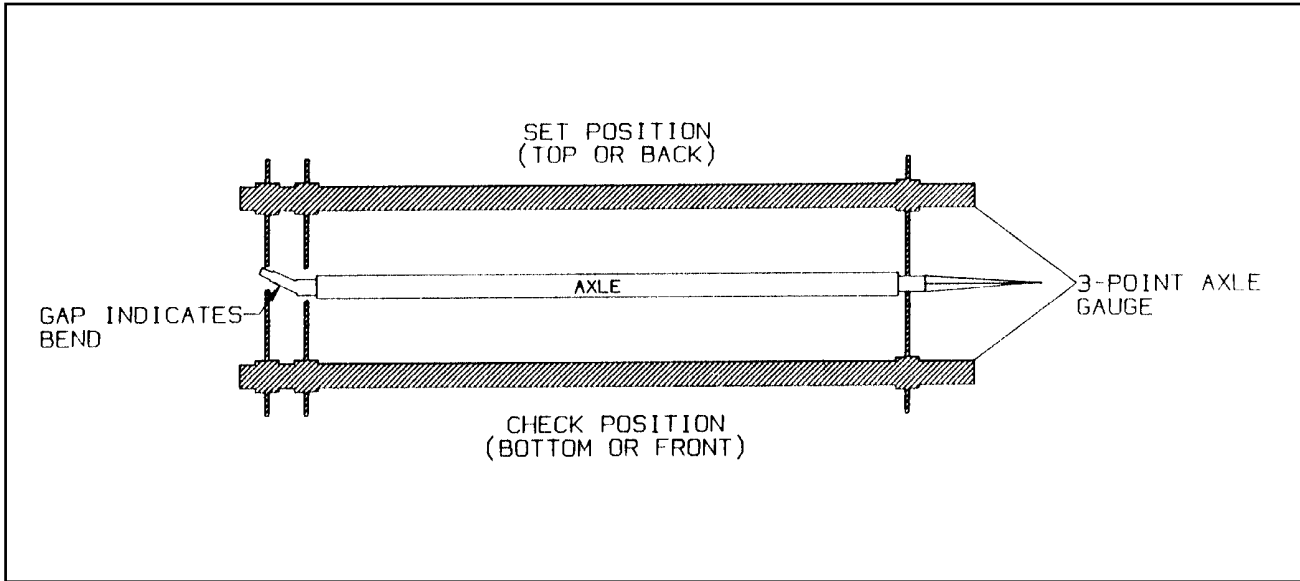

Figure 4-5 Checking Axle for Bend
- b. Place a 3-point axle gauge against the front side of the axle, and adjust each axle gauge point to the axle. (Double point end against the inner and outer wheel bearing surfaces of the spindle being checked and the other point on the inner bearing surface on the other spindle.) (See Figure 4-5).
- c. Move the axle gauge and place against the back side of the axle. If either of the points of double point end fails to touch the axle surface, a bent spindle is evident. A point gap of .015" or more is considered excessive tire "toe" and the axle must be replaced (See Figure 4-5).